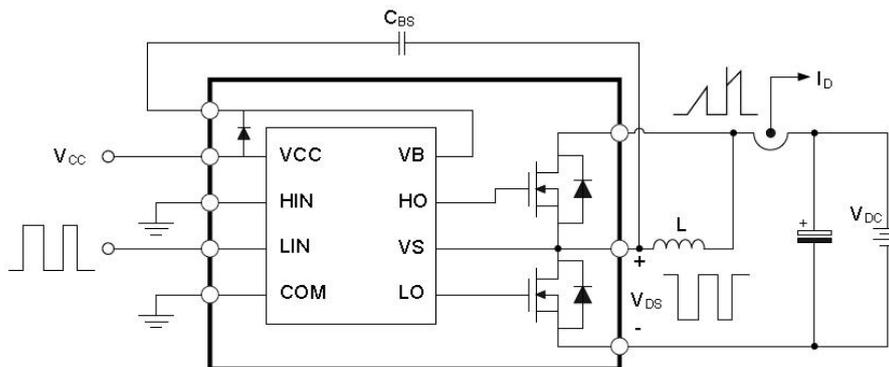

Figure 2 Switching time and low side of RBSOA test circuit
- (1) BV_{DSS} refers to the maximum voltage limit between the source and drain of each power MOSFET. In practical applications, considering the influence of stray inductance, V_{PN} voltage should be much lower than this value to ensure that the voltage applied to the MOSFET at any time does not exceed BV_{DSS} .
- (2) t_{ON} and t_{OFF} include the internal transmission delay of the HVIC. The typical values listed are test values under laboratory test conditions and may vary in practical applications depending on the printed circuit board and circuitry used. For detailed definitions and test circuits of switching times, please refer to Figure 2 below.